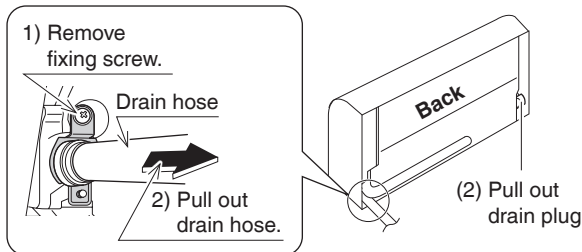

Fig. 15
(2) Left, back-left, or bottom-left piping
- Remove the fixing screw and pull out the drain hose. (Refer to **Fig. 15**)
- Pull out the drain plug and insulating tube. (Refer to **Fig. 15**)